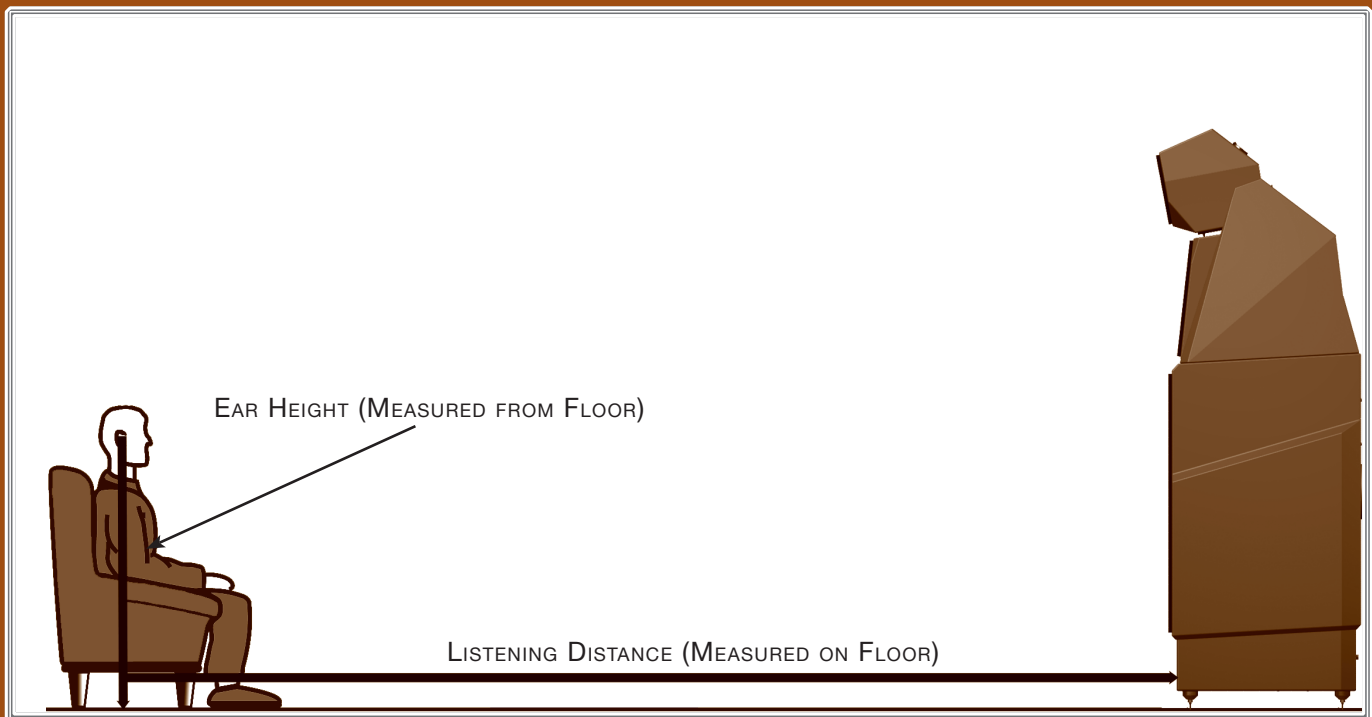

FIGURE 6 – MEASURE LISTENING DISTANCE AND EAR HEIGHT.
As indicated in Figure 6, the MAXX system allows for different listening distances (away from the speakers) and listening ear heights (measured distances from the floor to your ear). For each distance/ear height combination there is a unique alignment geometry.
4. While sitting, have someone measure your ear height from the floor directly below your ear canal. You should be relaxed in your chair, as you would be when listening to music (see Figure 6).
5. Now measure the distance (on the floor) from the point on the floor below your ear to the base of the loudspeaker, as shown in Figure 6.